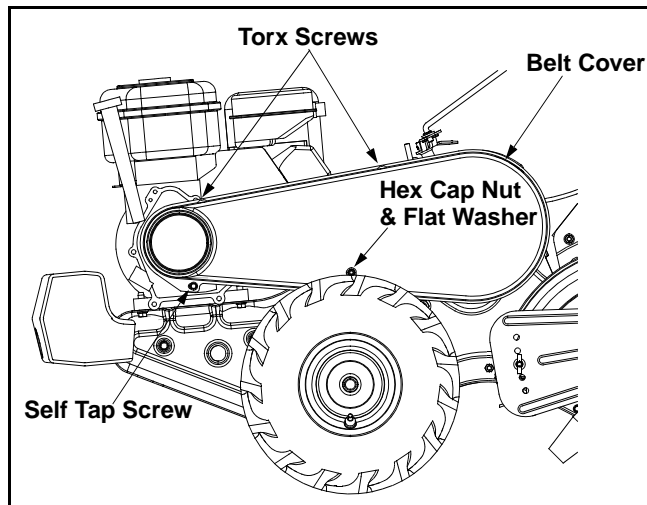

Figure 8
- Remove the belt cover from the left side of the tiller by remove two torx screws from the top of belt cover. See Figure 8.